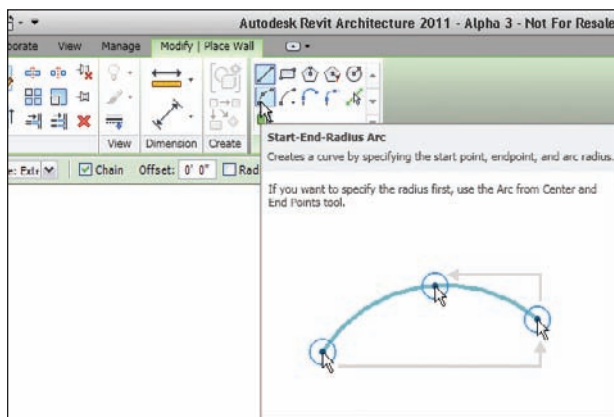

FIGURE 2.9 Draw a radial wall using the Start-End-Radius Arc method.
18. On the Modify | Place Wall panel, click the Start-End-Radius Arc button, as shown in Figure 2.9.